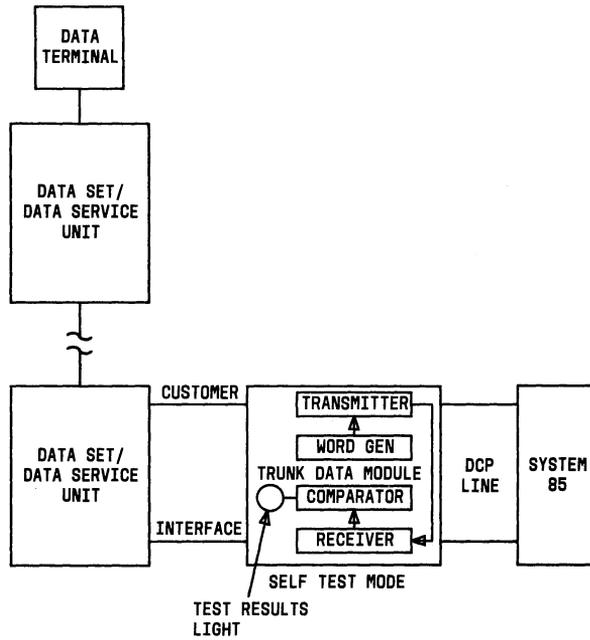

Fig. 9—Self-Test Diagram
3.08 **Caution: Operating the SELF TEST switch (without operating the REMOTE LOOPBACK switch) during a call will cause the call to be disconnected.** This self test (Fig. 9) checks the internal circuits of the trunk data module and is activated by operating the SELF TEST switch from its normal OFF position to the SELF TEST position and continues until the switch is moved to the OFF position.